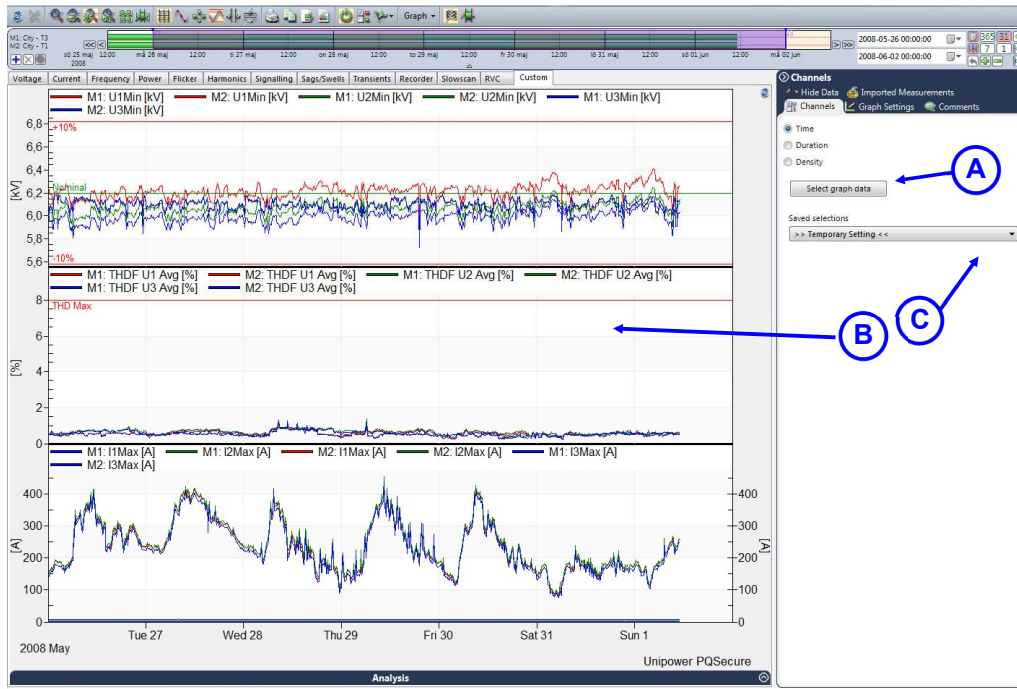

Figure 39
A. Here all previously saved selections are shown. By selecting in this list, you can quickly do complex selections. This list is also shown in the custom graph main window (Figure 39).